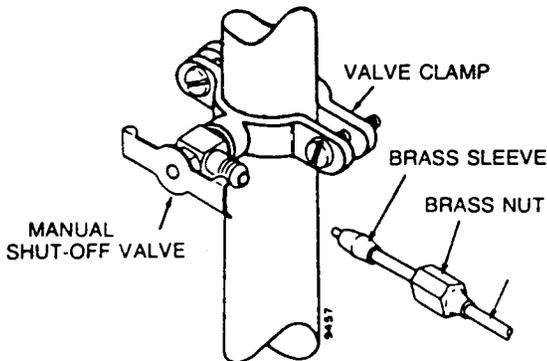

Figure 17 Connecting supply line to saddle valve
7. Slide the brass nut and sleeve onto the 1/4" copper tubing (see figure 17). Insert the end of the tubing into the saddle valve as far as it will go and tighten the nut with an open end wrench.